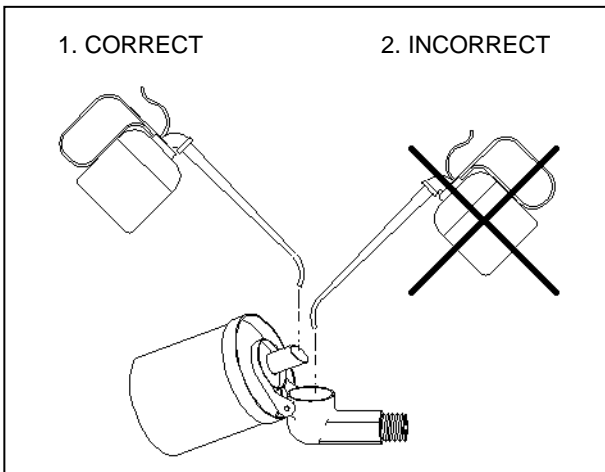

Fig. 5.4
through the opening corresponding to the plug 2. Then replace plugs 1 and 2 to add oil by oil feeder (as shown on Fig. 5.4) until the level stabilizes. The handling of the oil feeder must be done quickly to not destabilize the oil level inside the bearing.
2. Observe Fig. 5.4